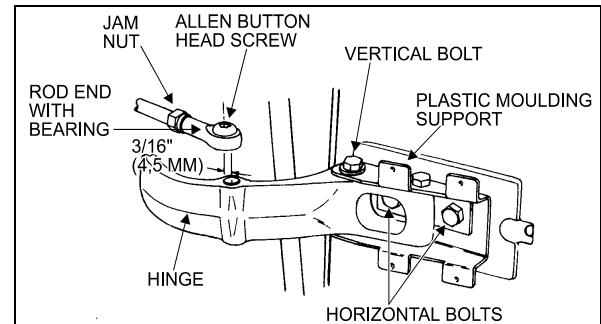

FIGURE 18: UPPER DOOR HINGE (COACH)
- Remove the Allen button head screw and the washer retaining the rod end with bearing to the upper hinge. See figure 18.
- Remove the Allen button head screw and the washer retaining the ball and socket rod to the upper hinge. See figure 18.
- Remove the Allen button head screw and the washer retaining the rod end with bearing to upper hinge. See figure 18.